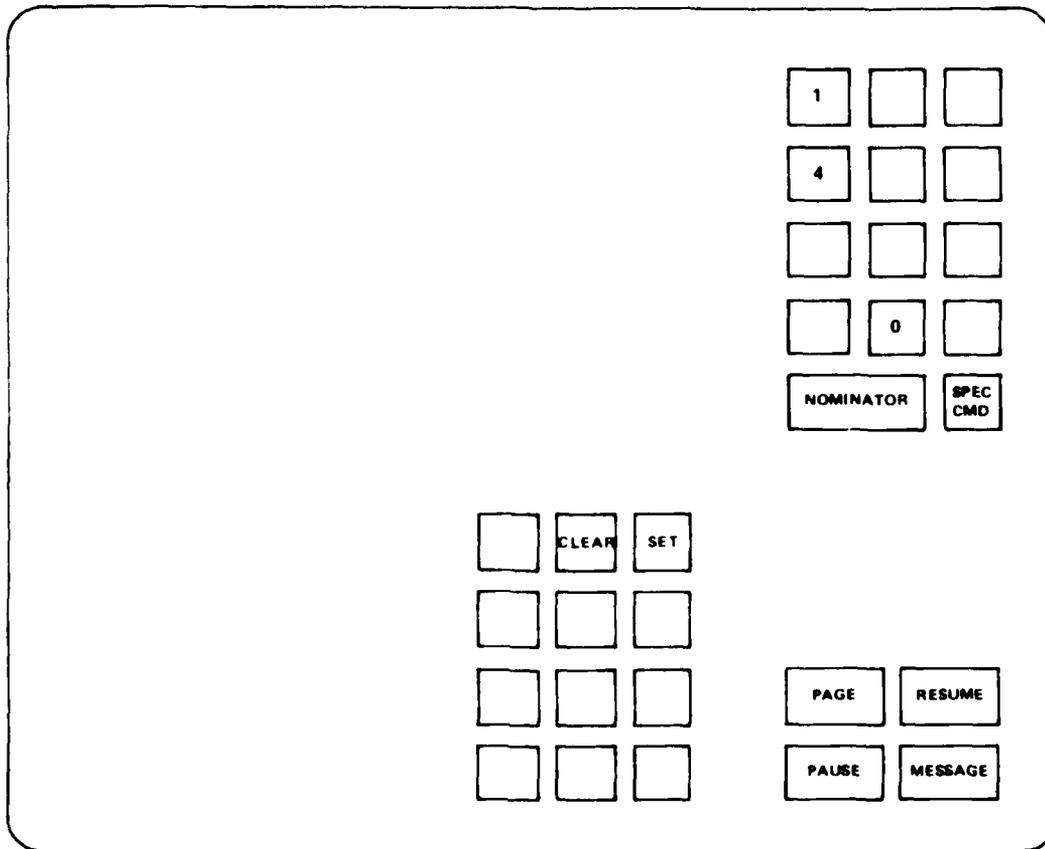

Figure 2 - Keypad Section of the Kurzweil Reading Machine Keyboard
2. Activate the Speech Output System mode. This mode enables the machine to read text entering the machine from the RS-232 port. It is activated by entering the command SET SPECIAL COMMAND 40. Entering this command requires pressing four keys on the Kurzweil's keyboard. Figure 2 shows the three keypad sections of the keyboard. Only those keys needed to initialize the system are described. The Kurzweil owner's manual4 should be consulted if a full description of the entire keyboard is desired. The following four keys should be pressed in the
The text then moves to a memory buffer. The two buffers together hold about 5 minutes of spoken text. The RESUME, PAGE, and PAUSE keys, in conjunction with the memory control keys, are used to listen to previously heard text which is in the memory buffer (see Figure 2).
The MESSAGE key (see Figure 2) functions essentially as it does when the Kurzweil is reading from a printed source and should be used as necessary when the user wants the Kurzweil to give its status ("waiting for input," "speaking from memory," "speaking from input buffer," or, "waiting--please enter a command").
in Figure 2 clears functions initiated by the SET key. Clearing all memory is done by resetting SET SPECIAL COMMAND 40.